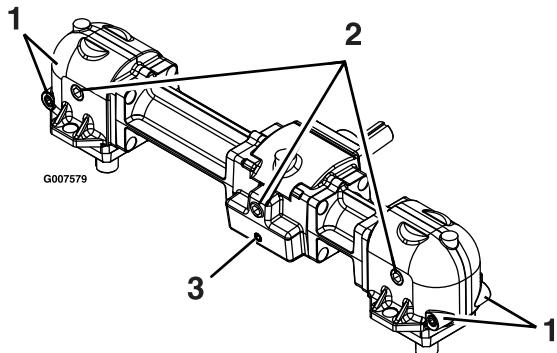

Figure 30
4. Remove the large oil drain plug on the front of each of the three gearbox sections and drain the oil (Figure 30).